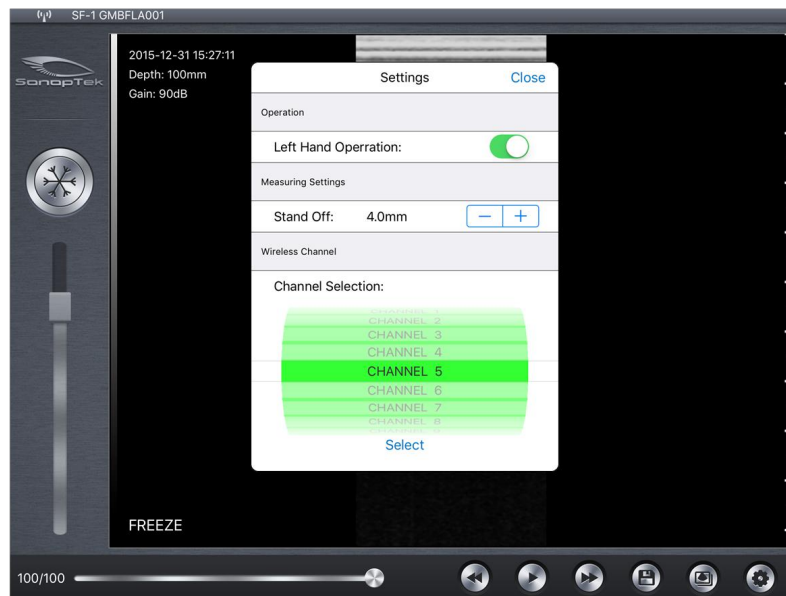

Figure 3-4 Settings Screen
Press the setting button (18), settings screen will appear as Figure 3-4 below.